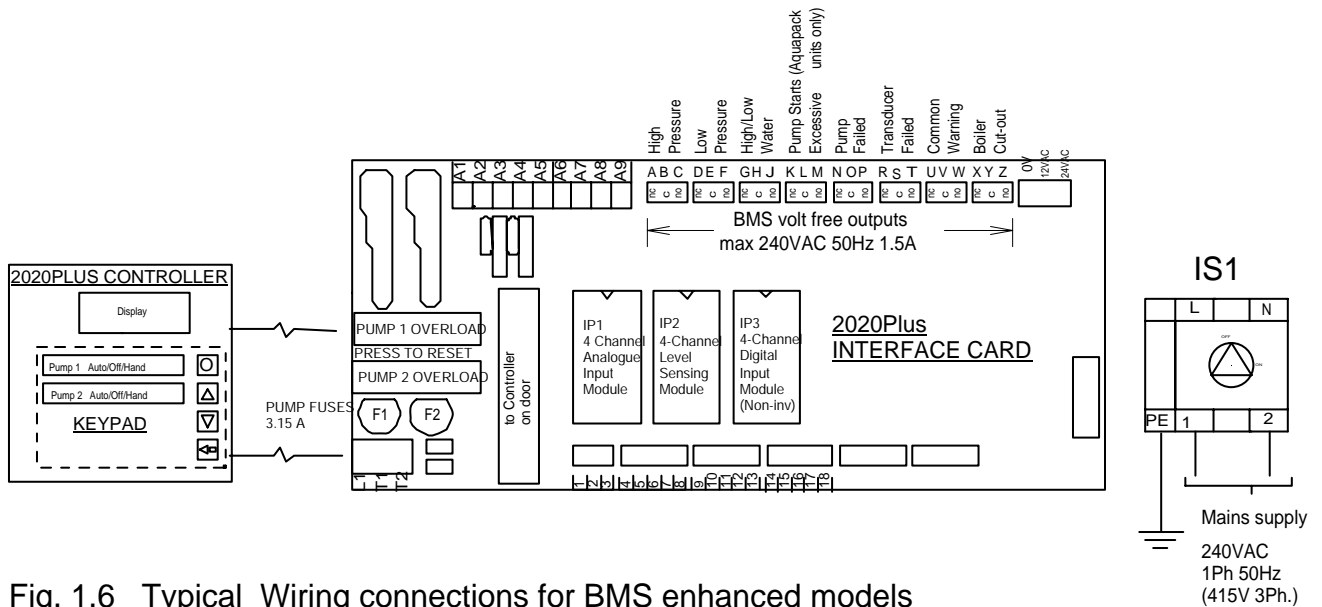

Fig. 1.6 Typical Wiring connections for BMS enhanced models
1.3.6.3 Connect incoming electrical mains supply to identified terminals in panel (see fig. 1.6). Ensure voltages and frequency indicated on the motor nameplates and wiring diagrams correspond with supply mains data and that the supply fuse ratings are correct for the total current rating of the equipment. Note: some units may require a 3 Phase supply for special applications. Refer to wiring diagram supplied with the unit or contact AquaTech-Pressmain.